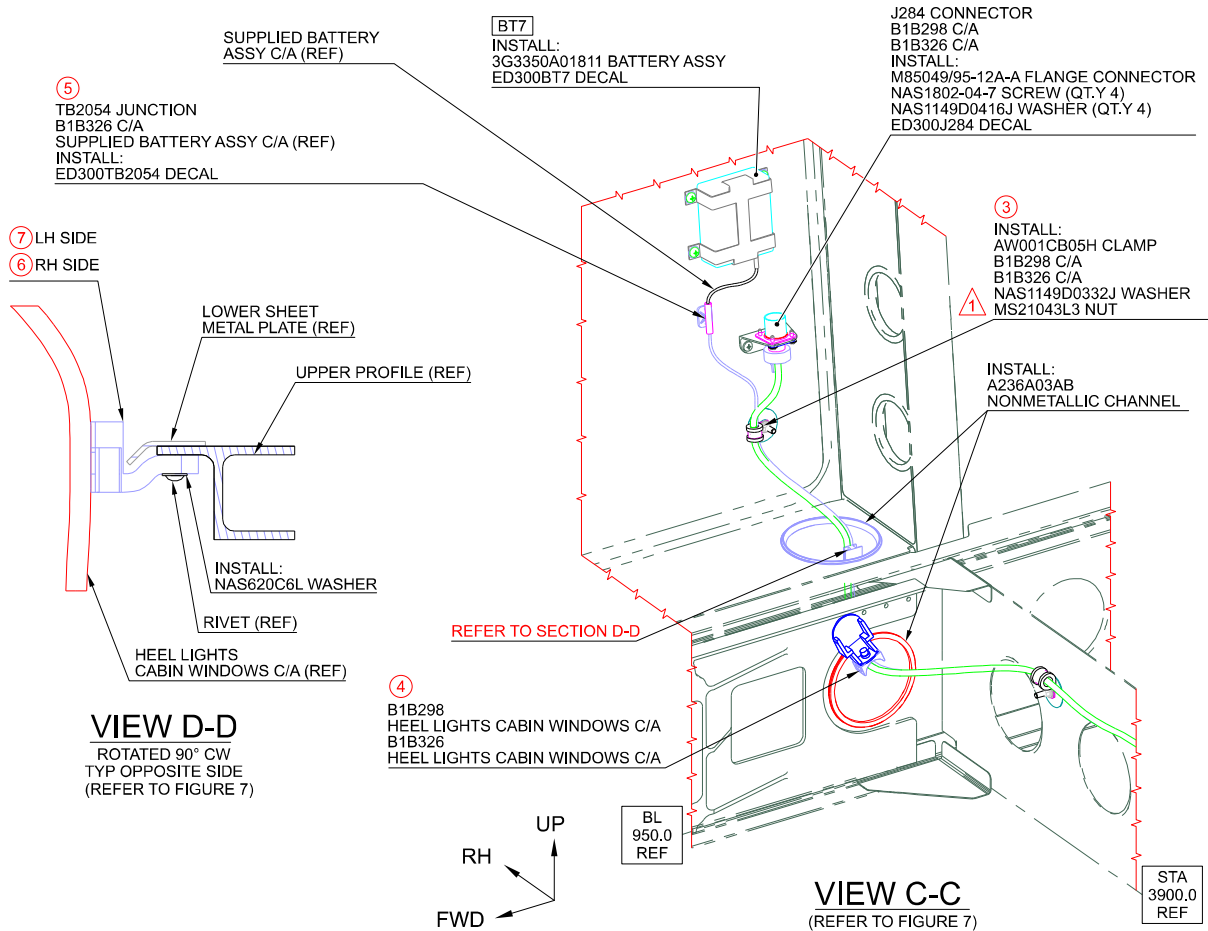

Figure 8
- 3.32 With reference to Figure 8 View B-B, install the flange connector P/N M85049/95-12A-A on the support by means of n°4 screws P/N NAS1802-04-7 and n°4 washers P/N NAS1149D0416J.
- 3.33 In accordance with AMP DM 39-A-11-00-01-00A-720A-A and with reference to Figure 8 View B-B, install the decal P/N ED300J283 next to the connector J283.
- 3.34 With reference to Figure 8 View B-B, install the clamp P/N AW001CB04H on the C/A B1A298 by means of the nut P/N MS21043L3 and the washer P/N NAS1149D0332J.
- 3.35 With reference to Figure 8 View C-C, repeat step 3.32.
- 3.36 In accordance with AMP DM 39-A-11-00-01-00A-720A-A and with reference to Figure 8 View C-C, install the decal P/N ED300J284 next to the connector J284.
- 3.37 With reference to Figure 8 View C-C, install the clamp P/N AW001CB05H on the C/A B1B298 and C/A B1B326 by means of the nut P/N MS21043L3 and the washer P/N NAS1149D0332J.
- 3.38 In accordance with AMP DM 39-A-11-00-01-00A-720A-A and with reference to Figure 8 View C-C, install the decal P/N ED300TB2054 next to the junction in-line TB2054.
- 3.39 In accordance with AMP DM 39-A-11-00-01-00A-720A-A and with reference to Figure 8 View C-C, install the battery assy P/N 3G3350A01811 on the mounting
- 3.40 With reference to Figure 8 View C-C and Figure 23 wiring diagram, perform electrical connection of the cable on part of the battery assy P/N 3G3350A01811 to the junction in-line TB2054.
- 3.48 With reference to Figure 8 View B-B and Figure 11 View looking LH pax door from internal side, connect the connector J283 to the connector P283.
3.50 With reference to Figure 8 View C-C and Figure 10 View looking RH pax door from internal side, connect the connector J284 to the connector P284.